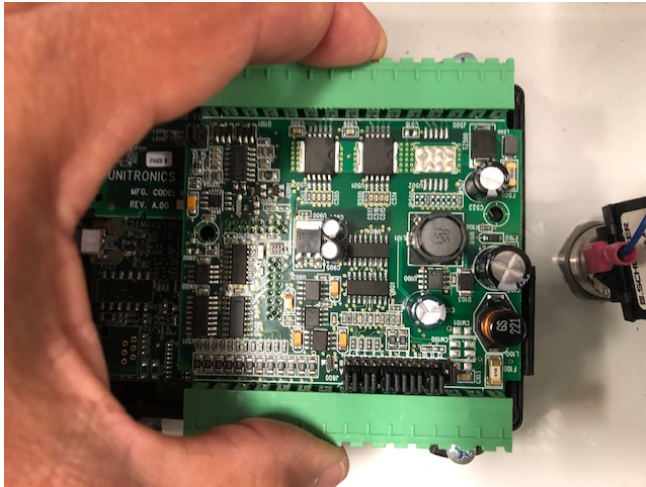

Figure 85. Upper Circuit Board Removal
8. Grip the upper circuit board by the two green strips and gently lift up. If necessary, hold the lower circuit board in place while lifting upper circuit board.. **Refer to Figure 85.**